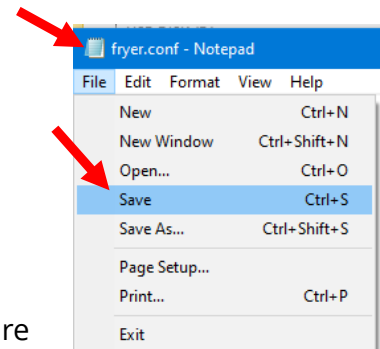

Figure 29
- When finished, Click on File and Save (see Figure 29). The file name **MUST** be **fryer.conf**.